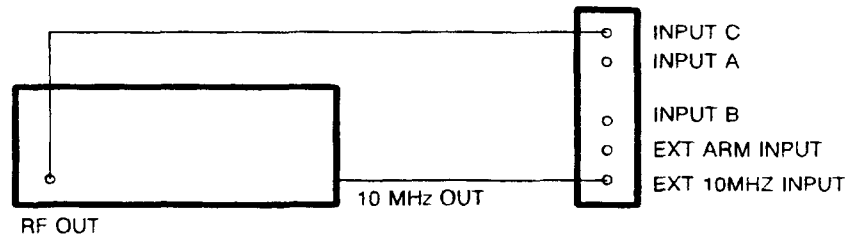

Figure 5-5. Input C Test Configuration
2. Connect the Signal Generator to the counter as shown in Figure 5-5.